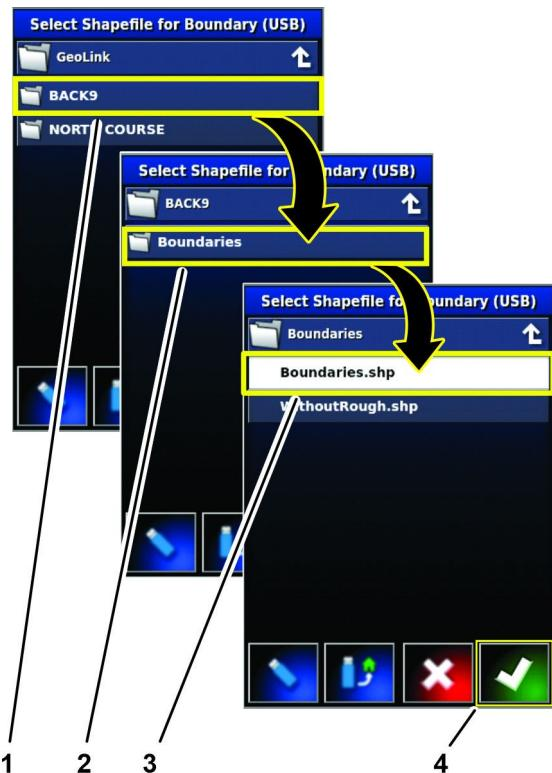

Figure 76
8. Press the directory icons (Figure 76) to navigate to the field information that you exported in step 4 of Exporting the Field Boundaries \(page 29\).
9. Press the BOUNDARIES icon, press the BOUNDARIES.SHP icon, and press the confirm icon (Figure 76).